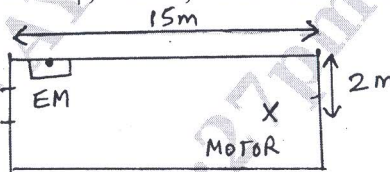

Fig. Q5(b)
- b. Calculate the input power, current and estimate to complete the wiring of the workshop shown in Fig. Q5(b). Provide a neat circuit diagram and detailed list of materials. Use  $\eta = 85\%$ ,  $\text{pf} = 85\%$ . The motor is a 3 $\phi$ , 415 V, 10 kW induction motor. (12 Marks)